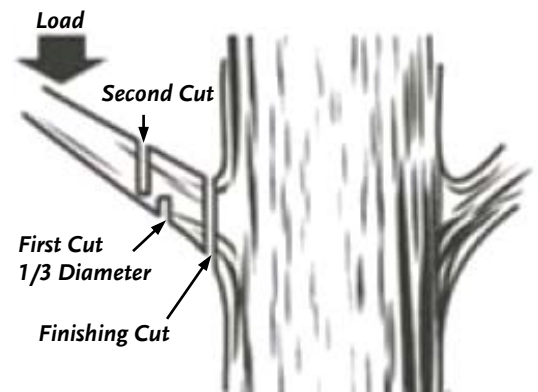

Figure 16
1. For your first cut, undercut the branch 1/3 through the diameter of the branch (**Figure 16**).